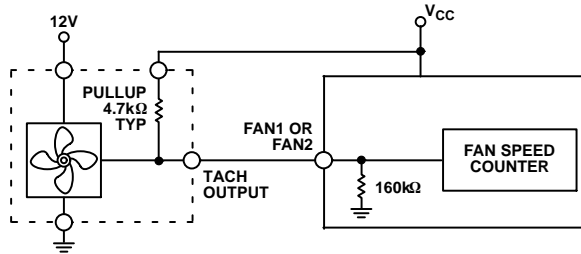

Figure 25. Fan with Tach Pullup to +V_{CC}
1. All of these circuits will provide an output range from 0 V to almost 12 V, apart from Figure 25 which loses the base-emitter voltage drop of Q1 due to the emitter-follower configuration.
Figure 25 to Figure 28 show circuits for most common fan tachometer outputs.
If the fan tachometer output has a resistive pullup to V_{CC}, it can be directly connected to the fan input, as shown in Figure 25.